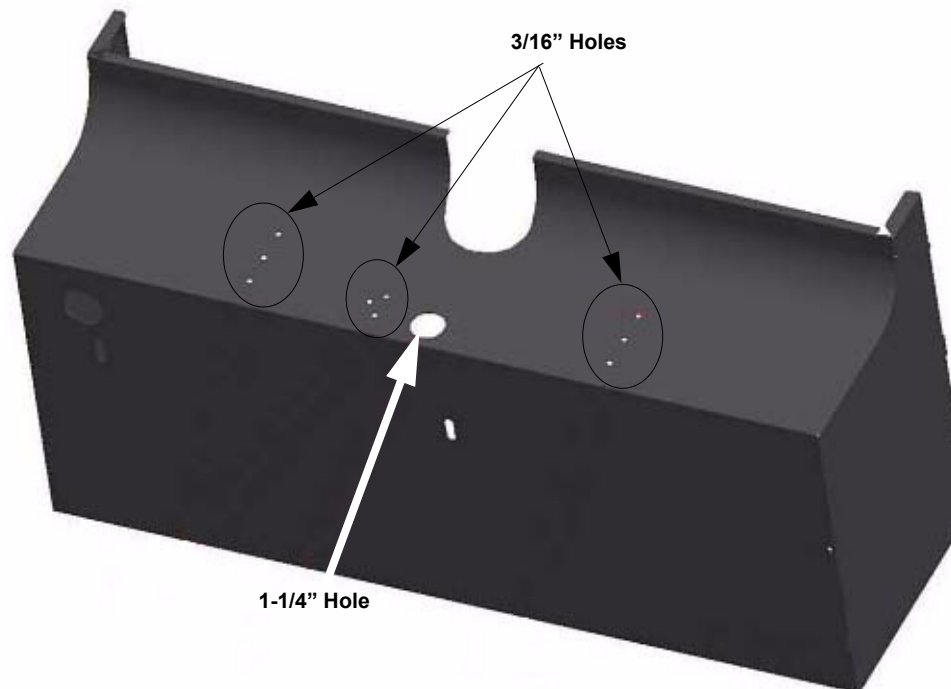

Figure 3.
3. Remove template and drill (9) 3/16" holes and (1) 1-1/4" hole, see Figure 3. Be sure to de-burr all the holes.